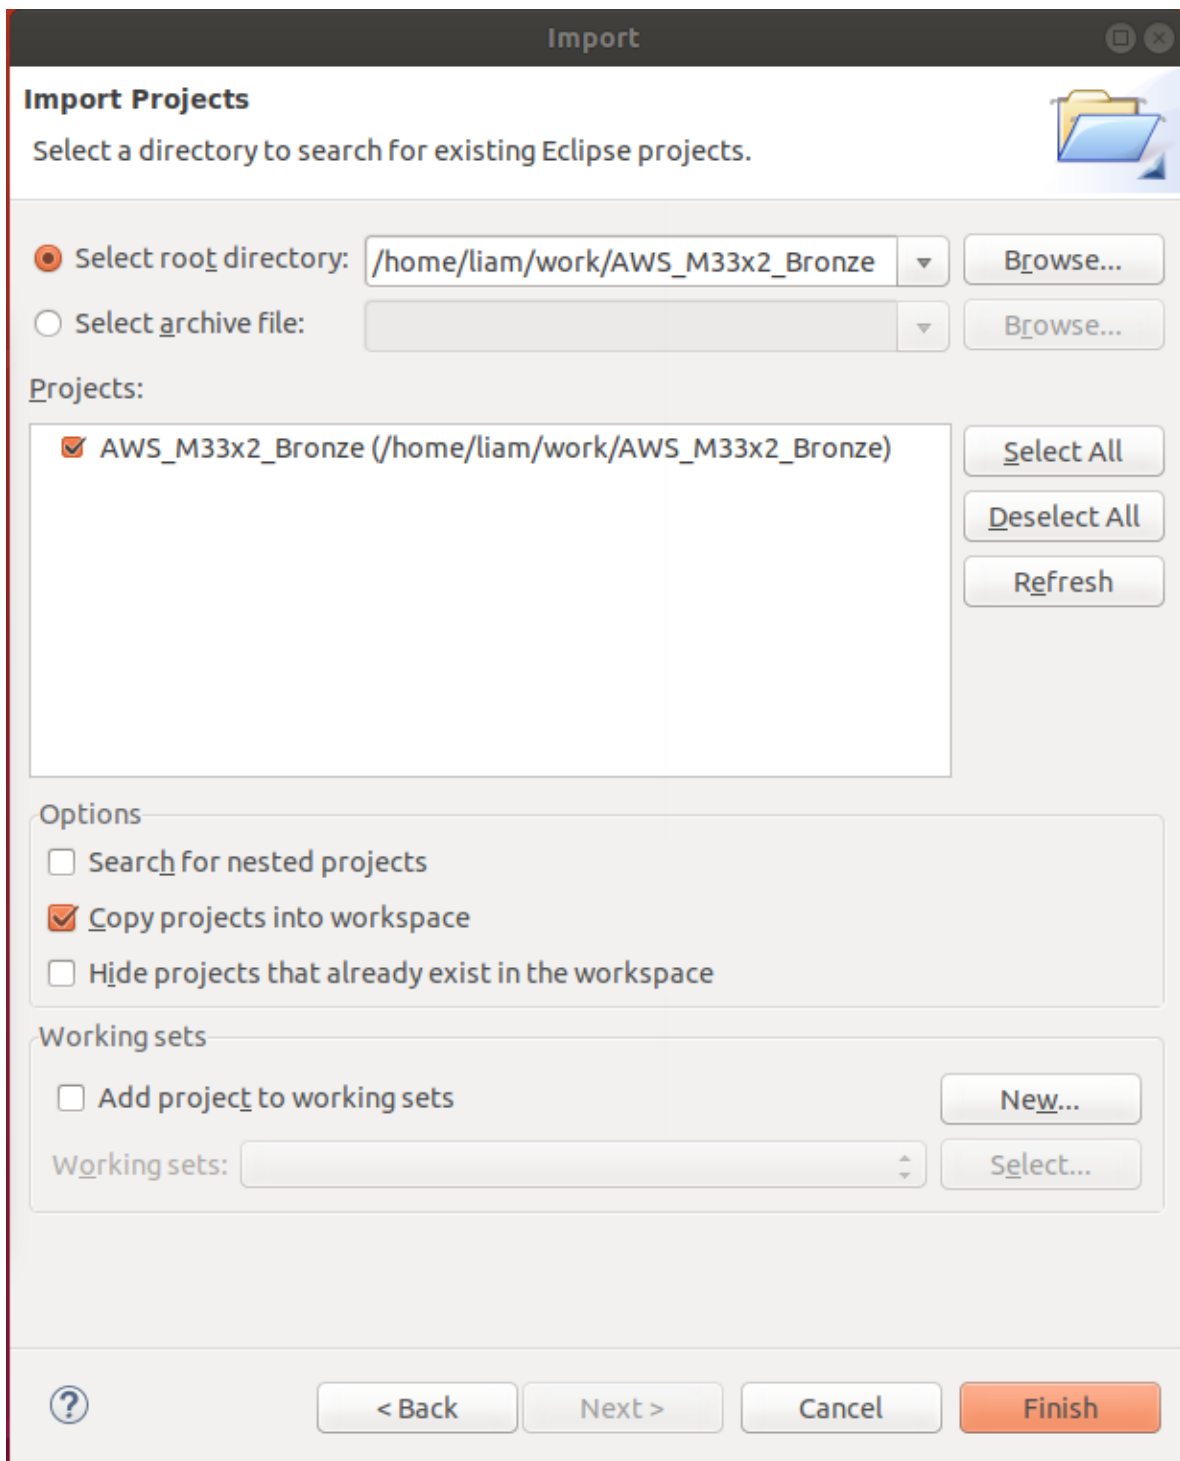

Figure 5 Importing an existing configuration database
3. In the **Import Projects** dialog select the path to configuration database from your local directory and select the "Copy projects into workspace" option before clicking **Finish** as shown in Figure 5 Importing an existing configuration database